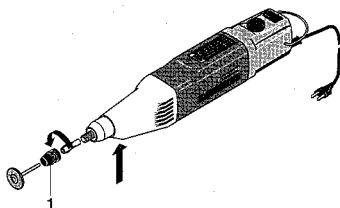

Fig. 2
Do not press the locking button (arrow fig. 2) as long as the machine is running.
1. Turn the spigot nut 1 (fig. 2) slightly and press the locking button at the same time, until it engages. Loosen the nut for a few turns and change the tool.